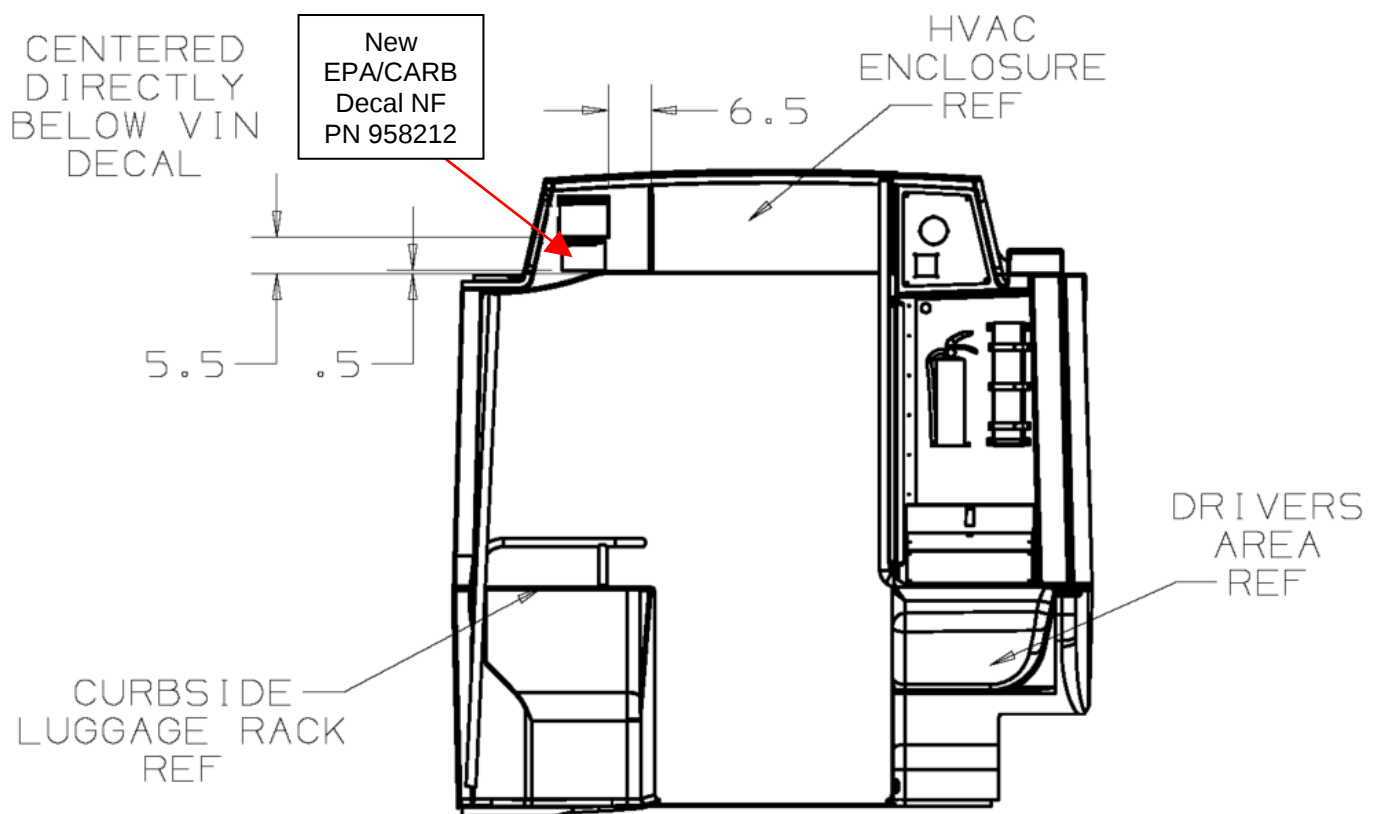

Figure 1 – EPA/CARB Decal Location
3. Remove and discard the existing EPA/CARB decal. See Figure 1.
5. Install new EPA/Carb decal (NF PN 958212). Center the new decal directly below the VIN decal as shown in Figure 1.